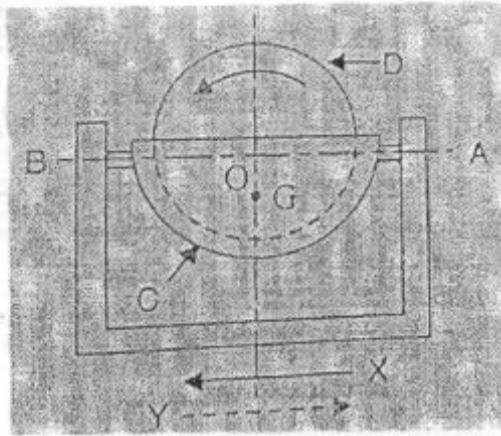

Fig.1
- Explain how a governor differs from a flywheel? (05)
- Derive an expression of gyroscopic couple on a naval ship during pitching. (05)
- Explain the role of idler gear in simple gear train? (05)
- Draw and explain the turning moment diagram for four stroke I.C. engine. (05)
- With a neat sketch explain the working of a centrifugal clutch. (06)
- What are the various applications of flywheel? (04)
- A cone clutch is used to transmit 80 KW power at 1440 rpm. The cone angle of clutch is 40° and coefficient of friction is 0.3. If the mean diameter of the bearing surface is 350 mm and allowable normal pressure is 0.2 N/mm^2 , determine the dimensions of conical bearing surface and the axial load. (10)
- Derive an expression for tensions in case of band and block brakes. (10)
- A gyrowheel D of mass 0.5 Kg, with a radius of gyration of 20 mm, is mounted in a pivoted frame C as shown in fig.1. The axis AB of the pivot passes through the centre of rotation O of the wheel, but the centre of gravity G of the frame C is 10 mm below O. The frame has a mass of 0.3 Kg and the speed of the wheel is 3000 rpm in the anticlockwise direction as shown in fig.1 (10)